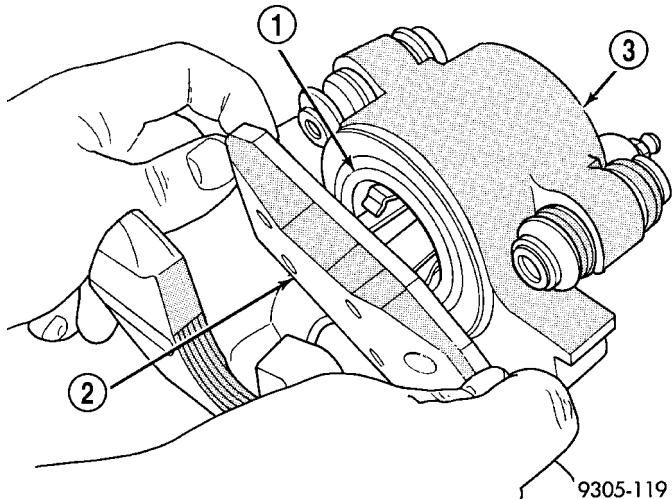

Fig. 15 Inboard Brake Shoe
(7) Pull inboard brake shoe away from piston until retaining clip is free from cavity in piston (Fig. 15).
(8) Repeat steps (3) through (7) on opposite side of vehicle to remove that sides brake shoes.
- (4) Install the new inboard brake shoe assembly into the caliper piston by firmly pressing it into bore of caliper piston with thumbs (Fig. 15).
(4) Install the new inboard brake shoe assembly into the caliper piston by firmly pressing it into bore of caliper piston with thumbs (Fig. 15).